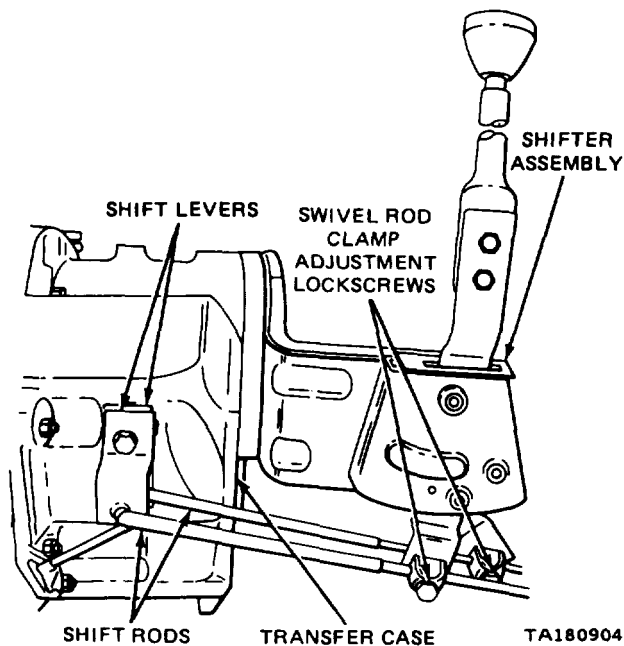

Figure 5-1. Shifter Assembly and Linkage.
a. *Adjusting the Linkage.* Refer to figure 5-1.